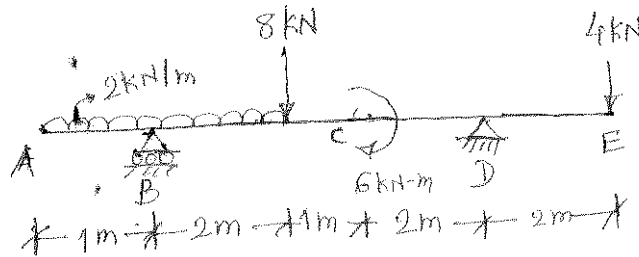

Fig. 3.1
3. a) Sketch the shear force and bending moment diagrams showing salient values for the beam loaded as shown in Fig. 3.1 8